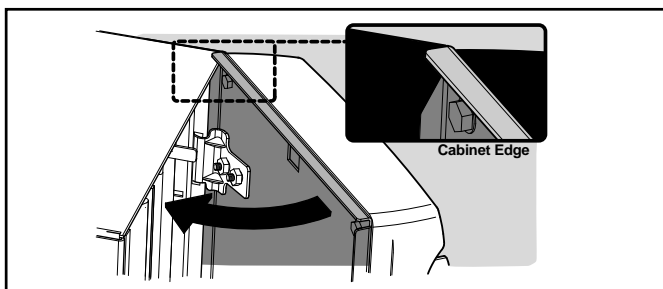

Figure 14 Rotating Door Closed
**Step 3:** Rotate door to closed position. Ensure ends of door overlap the cabinet (see detail). See Figure 14.